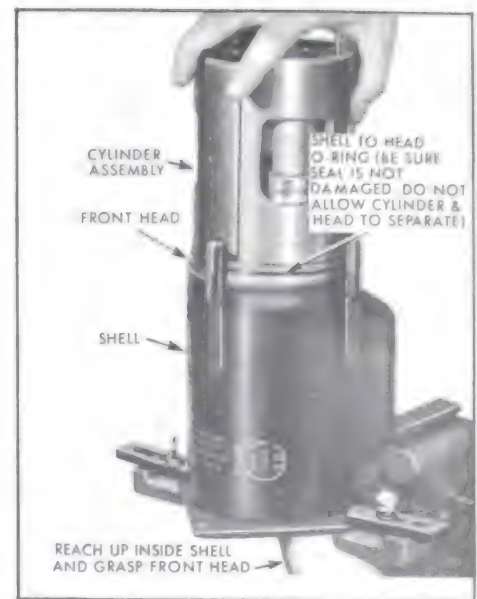

Figure 11-150—Installing Cylinder Assembly into Shell
9. Coat the inside machined surfaces of shell with clean 525 viscosity compressor oil. Line up oil sump with oil intake tube hole and lower mechanism into shell. Extreme care must be used to prevent large "O" ring seal from being damaged. Maintain this alignment when lowering mechanism into place. See Figure 11-150.